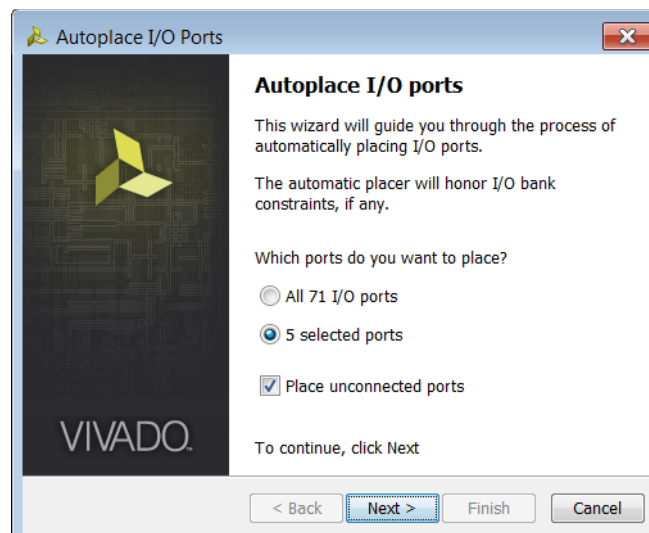

Figure 3-27: Autoplace I/O Ports Wizard
3. In the Autoplace I/O Ports wizard (Figure 3-27), select the group of I/O ports to place, and click **Next**.